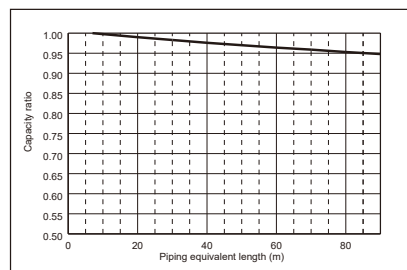

Figure 6 Correction of refrigerant piping length
- Piping Length Correction (60 m) 0.96 (Refer to Figure 6)